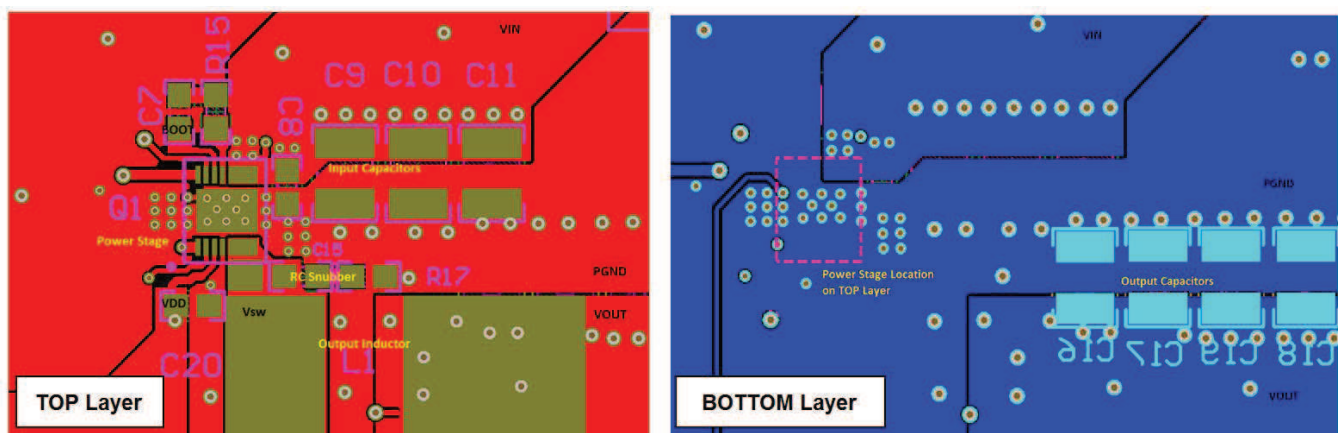

Figure 14. Recommended PCB Layout (Top Down View)
- The placement of the input capacitors relative to  $V_{IN}$  and  $P_{GND}$  pins of CSD95379Q3M device should have the highest priority during the component placement routine. It is critical to minimize these node lengths. As such, ceramic input capacitors need to be placed as close as possible to the  $V_{IN}$  and  $P_{GND}$  pins (see Figure 14). The example in Figure 14 uses 1  $\times$  1-nF 0402 25-V and 3  $\times$  10- $\mu$ F 1206 25-V ceramic capacitors (TDK part number C3216X5R1C106KT or equivalent). Notice there are ceramic capacitors on both sides of the board with an appropriate amount of vias interconnecting both layers. In terms of priority of placement next to the power stage C8, C9, C10 and C11 should follow in order.
- Use the smallest drill size allowed in your design. The example in Figure 14 uses vias with a 10-mil drill hole and a 16-mil capture pad.